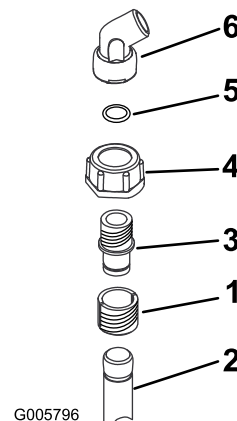

**Figure 8**
6. Adjust the rinse nozzle assembly position so the top of the **un-threaded** end of the tube stands approximately 10 cm (4 inches) from the tank surface (Figure 8).
7. Set the tube height by tightening the larger retainer nut installed above (Figure 8).